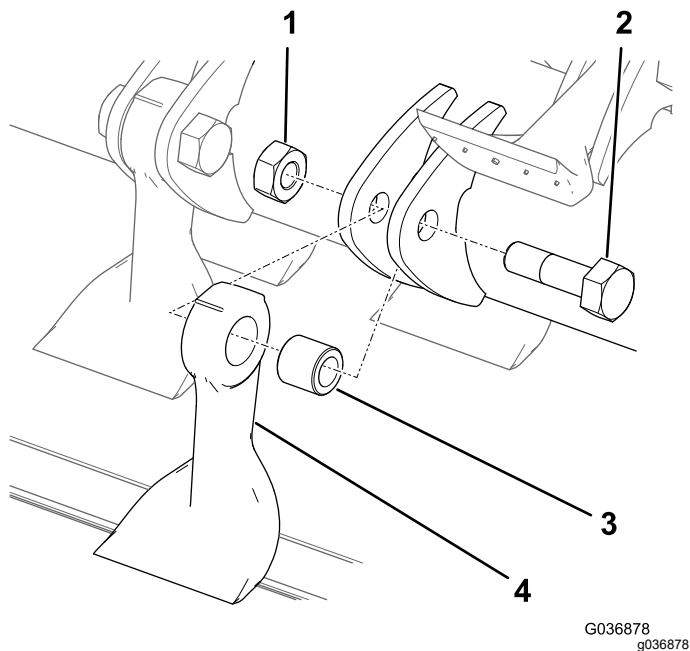

Figure 34
6. Holding the blade in a rag or padded glove, remove the nut, bolt, bushing, and blade (Figure 34).
8. Install a new blade and bushing with a new nut and blade bolt (Figure 34).